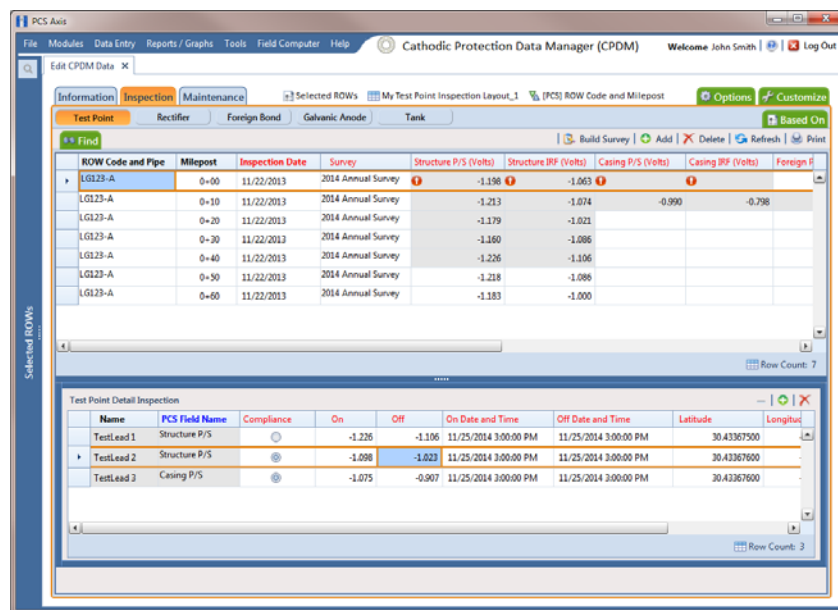

Figure 7-99. Test Point Detail Inspection Mini-Grid
- c** Select a test point facility in the *Inspection* grid that includes subfacilities you want to add potential measurements (Figure 7-99, page 316).